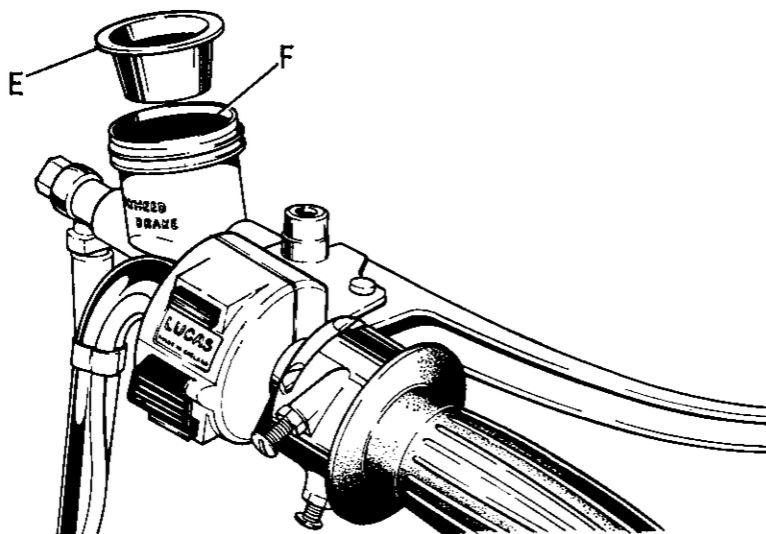
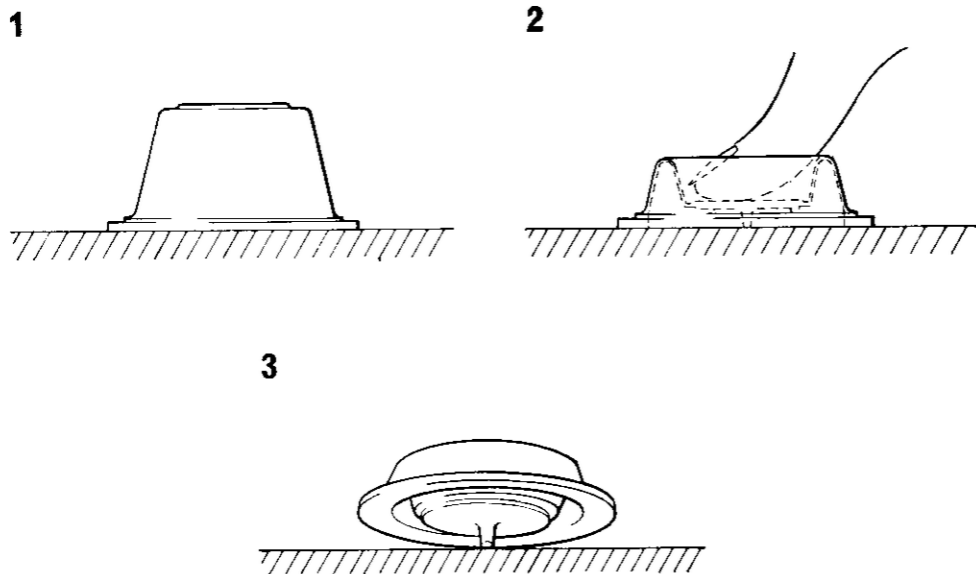

Fig. F25. Showing the brake reservoir fluid level and cap.
Fig. F27. Folded condition of rubber diaphragm
The brake fluid level in the master cylinder reservoir should be as shown in Fig. F25. (F). There is a mark running around the inside periphery of the reservoir about $\frac{1}{4}$ " (6.35 mm) from the top. During the life of the brake pads it will not be necessary
immersed in at least $\frac{1}{2}$ in. (12.7 mm) of brake fluid. Remove the screwed cap from the master cylinder reservoir and take out the rubber diaphragm "E" Fig. F25. Now slacken the bleed nipple $\frac{1}{2}$ to $\frac{3}{4}$ of a turn, (with the bleed pipe still attached).
Remember to maintain the level of hydraulic fluid in the master cylinder during the entire operation. The correct level for the fluid is shown in Fig. F25 at "F". This will be the correct level when the brake pads are NEW. When replacing the rubber diaphragm (Fig. F25 "E") it will be easier to replace the cap with the diaphragm in a folded condition. See Fig. F27.
If at any time it has been necessary to replenish the system with hydraulic fluid during the life of one set of brake pads, remember that when new pads are fitted the fluid level spill will rise appreciably in the cylinder and may spill onto the gas tank. Therefore the level will have to be corrected to that shown in Fig. F25 (Hydraulic fluid instantaneously corrodes cellulose paintwork and great care should be exercised when handling this fluid).